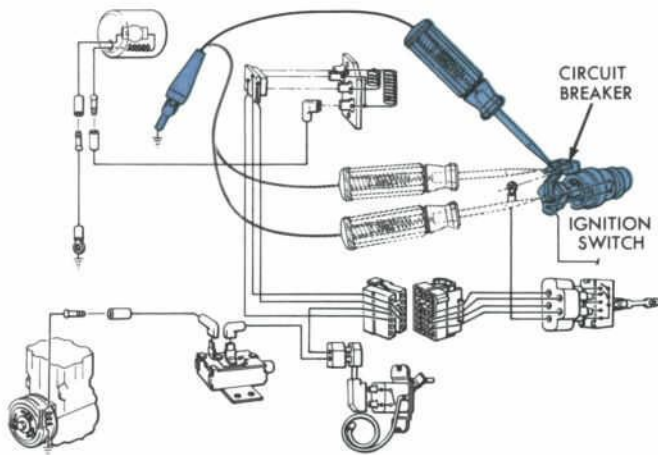

Fig. 19 — Testing Circuit Breaker
7. Finally, if required, move the probe to the circuit breaker terminal (Fig. 19). The breaker is usually mounted on the accessory terminal of the ignition switch. Test for power through the breaker and through the switch. If either isn't passing current, replace it.